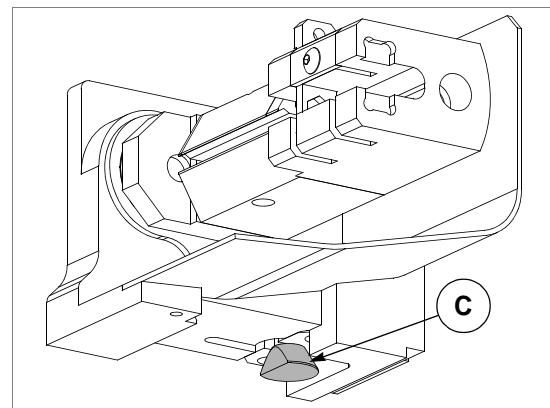

Fig. 62
- 2) Fit the K2 tailstock into its seat, slightly inclined to the left, with the fixing cam (C) (fig. 62) aligned with the slide runners and secure by tightening the screw (W1) (fig. 69, page 48) with the (T4) wrench.